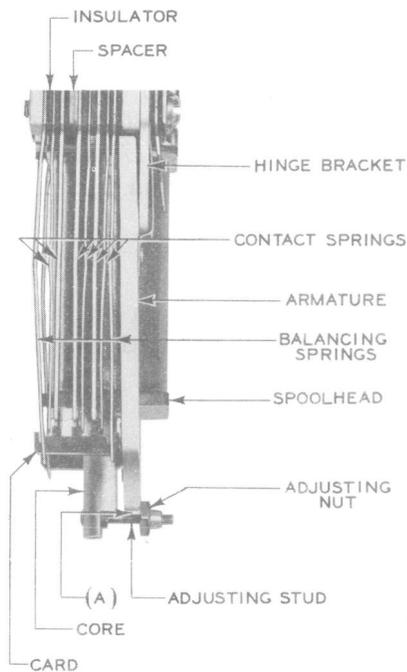

Fig. 4—UB-Type Relay—Top View
- 2.07 Adjusting Stud Clearance:** Fig. 4(A)—On a relay having an adjusting stud, there shall be a clearance between the armature and the adjusting stud in all positions of the armature travel.